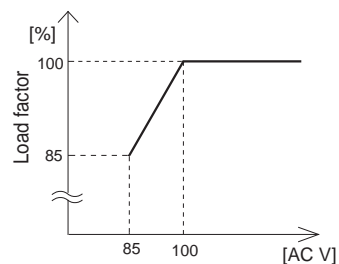

Fig. 6.2 Input voltage derating curve
■ Input voltage derating curve is shown in Fig.6.2.